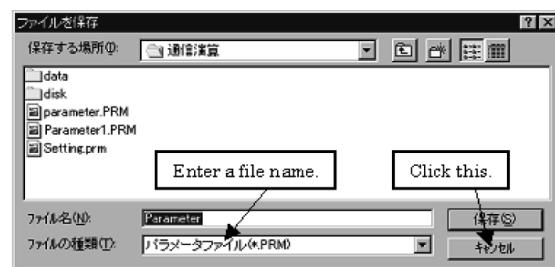

Fig. 9.4.2
3. When the window as shown in Fig. 9.4.2 appears, enter the name of the file, and then click [保存 (S)] [Save].